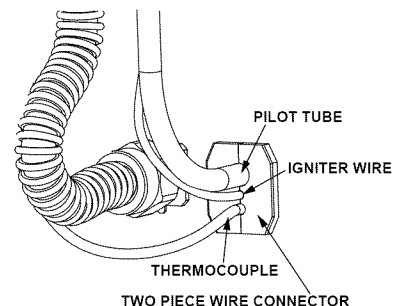

FIGURE 28.
9. Position the new pilot tube through the largest opening of the two piece wire connector. **NOTE:** The largest opening should be located at the top position. The igniter wire should be located in the middle opening and thermocouple in the bottom opening. (Figure 28)